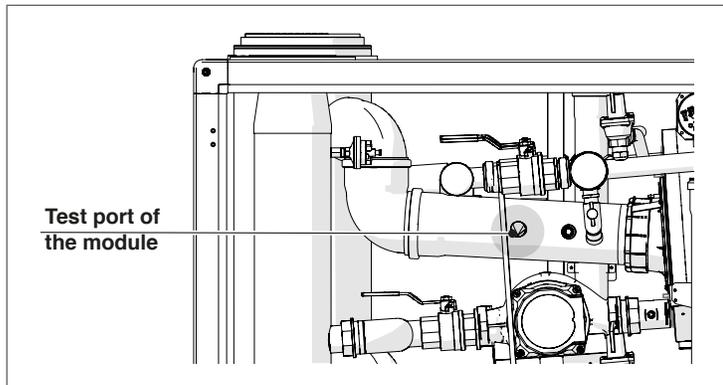

Fig. 19 Test Port for Combustion Analysis (available on each individual heat exchanger)
- Insert a combustion analyzer probe into the test port shown in Fig. 19